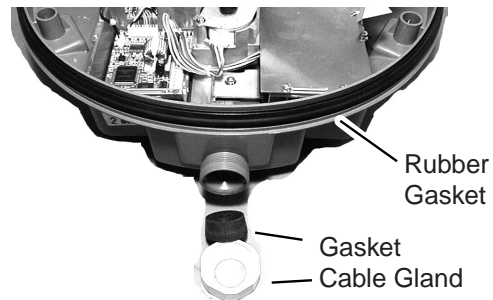

Figure 7 Antenna unit, inside view
- Confirm that the rubber gasket is properly positioned and then tighten the fixing screws for the cover. Refer to Figure 7 for positioning of rubber gasket.